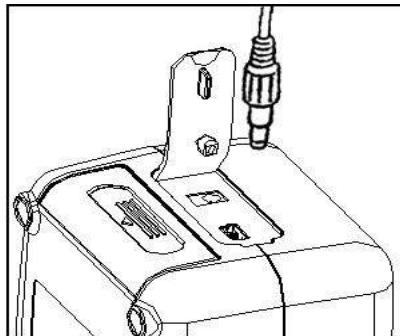

Figure 5. Power Adapter connection
2. Plug the input cable of the power adapter as shown on Figure 5 into the DC connector.